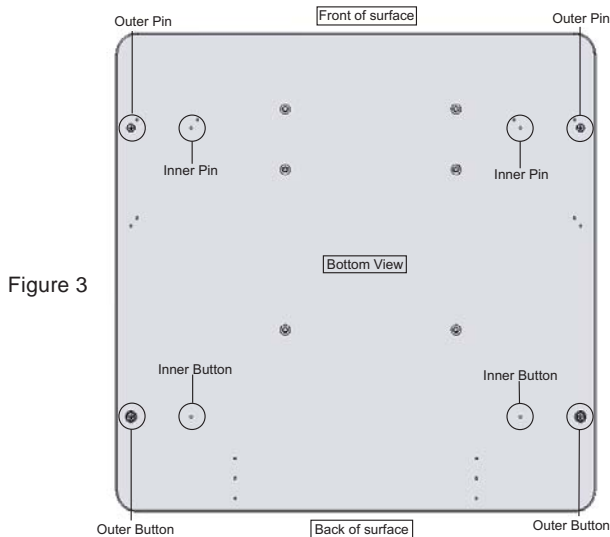

Figure 3
4. Install pin & button as shown in Figure 3. Depending on location of C-Leg there is an inner and outer location to mount pin & button.